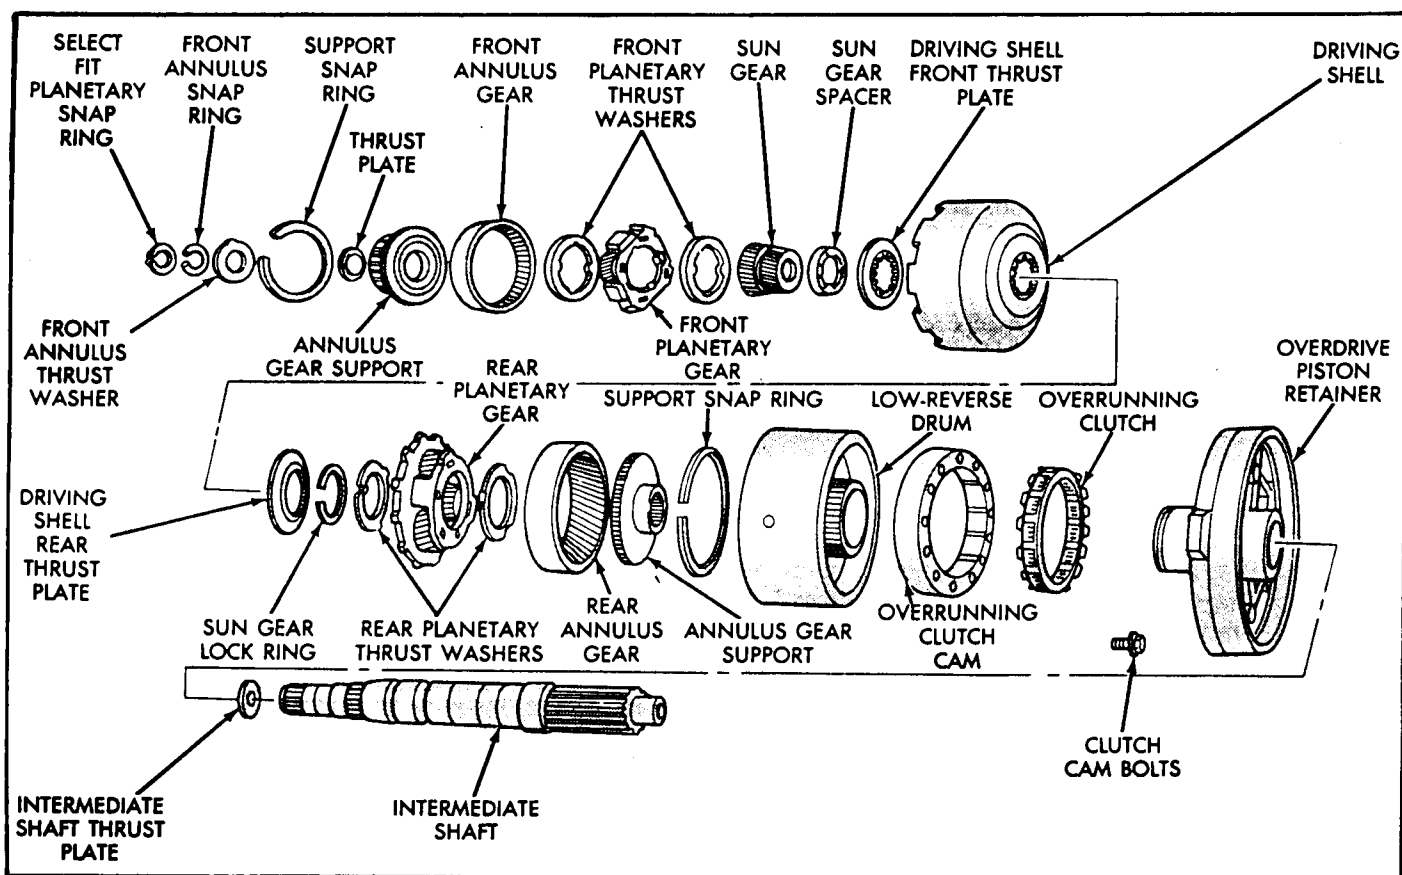

Figure 72
1. Clean all planetary geartrain components with clean solvent (Figure 72).